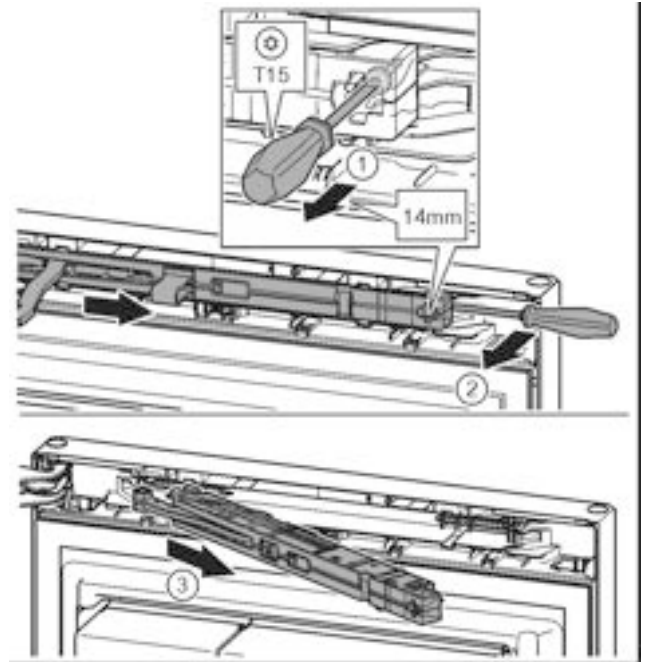

Fig. 10
- ▶ Undo the soft stop mechanism screw with a T15 screwdriver approx. 14 mm. Fig. 10 (1)
- ▶ Insert a screwdriver behind the soft stop mechanism on the handle side and rotate forwards. Fig. 10 (2)
- ▶ Remove the soft stop mechanism. Fig. 10 (3)